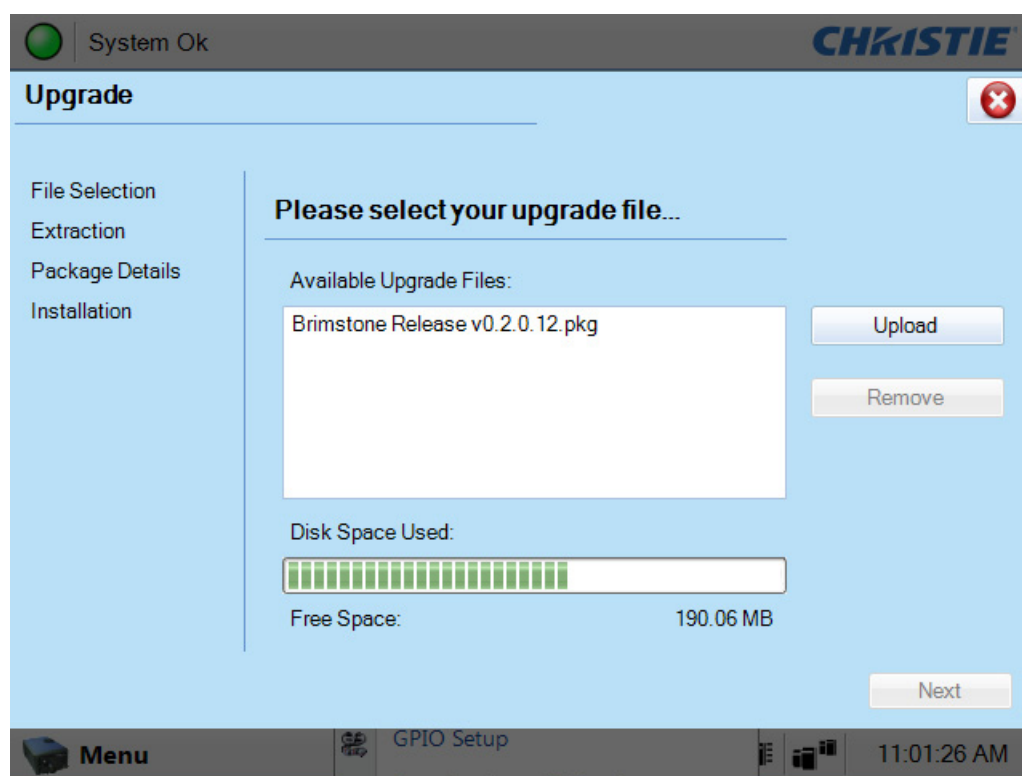

Figure 3-8 Upgrade: File Selection Window
- Insert the USB drive containing the upgrade package into the USB port on the TPC. Navigate to the **Administrator Setup: Upgrade** window and click the **Upload** button. (**Figure 3-8**). This launches a file selection dialog for you to navigate and select this file. Once complete, the system automatically advances to the **Extraction** window and begins extracting the upgrade package.
- From an FTP client, enter the projector IP address and enter the user name and password. Once connected, copy the upgrade package from the FTP site to the root folder of the projector. The upgrade package should display in the **Available Upgrade Files** region of the **File Selection** window (**Figure 3-8**). Select the upgrade package and click the **Next** button to advance to the **Extraction** window. **NOTE:** *After copying several upgrade packages to the root folder, an alarm will occur if the disk space becomes full. Navigate to the root folder and delete the older upgrade packages. Once removed, copy the current upgrade package again.*